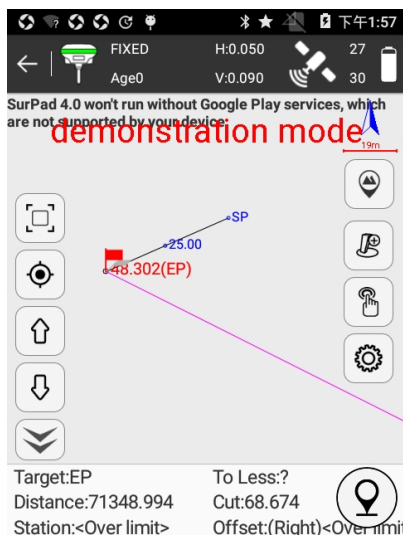

Figure 5.14-1
Press [Survey] -> [Curve Stakeout], select a line from Curve Stakeout list to stakeout as shown in Figure 5.14-1.
(3) Select target curve, press [OK], set Calculation mode (Calculate by integer number or Calculate by integer distance) and Interval, and press [OK] to return to Curve Stakeout list. In list it displays main points of the curve (QD、QZ、ZD、JD、HH) and coordinates and mileage according to interval settings.
(4) Select one point in Curve Stakeout list and press [OK] to enter stakeout interface as shown in Figure 5.14-1. According to interval settings, it displays mileage at the corresponding position of the line. When the distance between stakeout point and current point is less than 3 meters, it will enter into precise stakeout, and stakeout according to arrow direction and prompt in bottom status.
(5) Press  to add stake on stakeout curve.
(6) The adjacent stakeout points in the points library can be switched automatically by  and  keys.